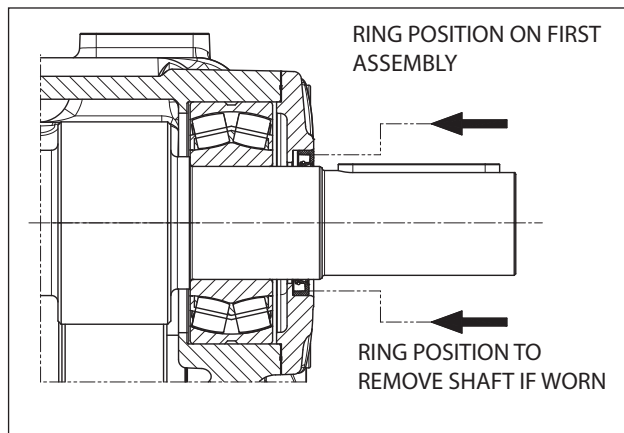
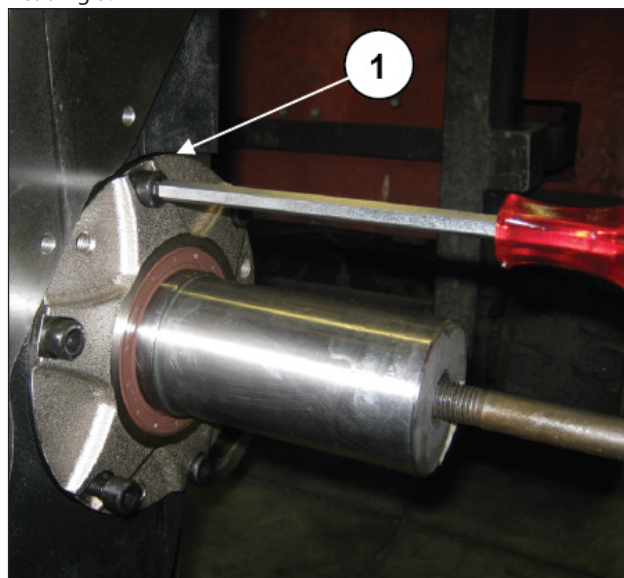

Fig. 118
Fig. 119
Fit the PTO bearing gasket and covers on both sides and tighten the M10 fixing screws (pos. ①, Fig. 118 - Fig. 119). Tighten the screws with a torque wrench as described in heading 3.